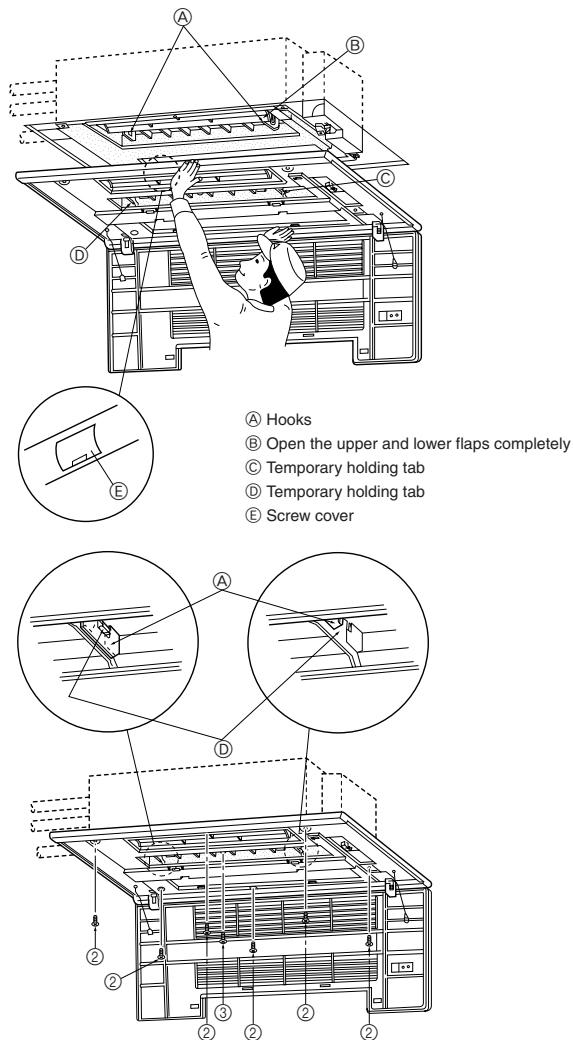
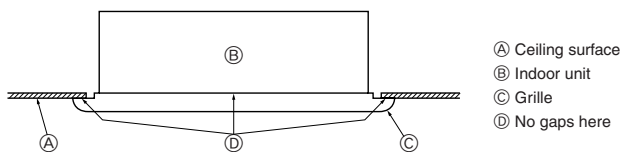

Fig. 7-2
Fig. 7-3
- Hook the temporary holding tabs on the front panel to the hooks on the indoor unit (see Fig. 7-2).
- Adjust the front panel so that it fits properly in the angle between the ceiling and the wall, and install the securing bolts ② (supplied with this grille) in their four places at left and right, leaving them slightly loose.
- Next tighten the securing bolts ② and securing screws ③ in the center three places.
- Finally tighten the securing bolts ② in the four places at left and right.
- At this point, make sure there are no gaps between the indoor unit and the front panel, and between the front panel and the ceiling surface. If there are gaps, the wind may come in and it may cause water to drip (see Fig. 7-3).
* Tighten the securing bolts ② and securing screws ③ completely.